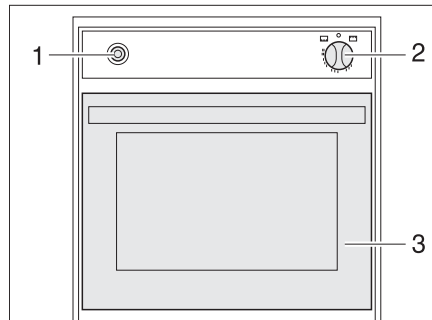

Fig. 136 Gas oven
- Fully open the oven flap (Fig. 136,3).
- Lightly press control knob (Fig. 136,2) and set to "🔥" (oven).
- Press the control knob (Fig. 136,2) and hold it down for 5 to 10 seconds. Gas will stream into the burner.
- Press the ignition switch (Fig. 136,1) repeatedly until there is a flame.
- Turn the control knob (Fig. 136,2) to "○". The flame fades.